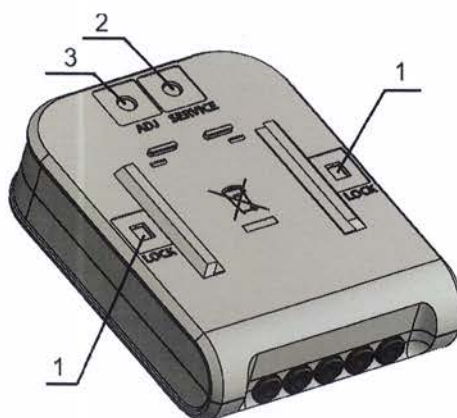

Fig.6. Sealing of the calculator of the heat meter
For the calculator of the newly produced meter additional sealing does not apply. Access to the calculator cover release latch (Fig. 6, pos. 1), the parameter change and test mode activation contacts (Fig. 6, pos. 2) and adjustment data activation contacts (Fig. 6, pos. 3) is protected by easy break-out screens.
Remove the screen „SERVICE“ on the back of the calculator or, if the screen has already broken down, a protective seal-sticker is removed (Fig. 6, pos. 2 of this appendix). A jumper is placed on the contacts „SERVICE“. The SERVICE mode is activated, symbol „<->“ and sign „TEST“ are displayed on the LCD.